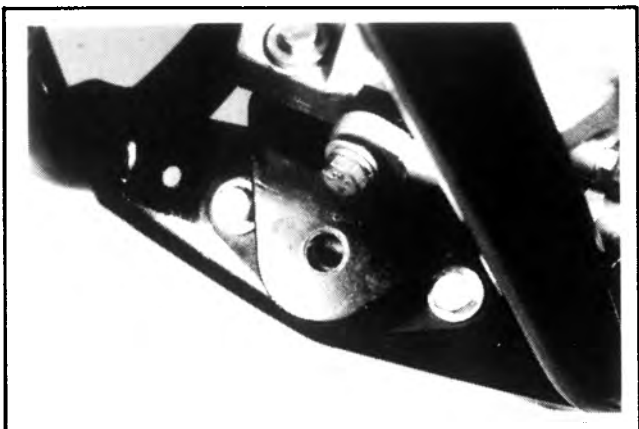

Figure 2-41. Engine Mount Aligned
18. See Figure 2-41. With the mount now centered, insert the 3/8 in. diameter bolt and install the two washers and nut.